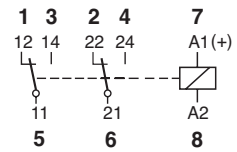

Fig.1 AC voltage endurance
**Connection diagram****Fig.1 AC voltage endurance****Fig. 2 DC load limit curve****Dimensions****Technical approvals, conformities**
C7-T22FX/DC ... V**C7-T22BX/UC ... V****Connection diagram****Fig.1 AC voltage endurance****Fig. 2 DC load limit curve****Dimensions****Technical approvals, conformities**